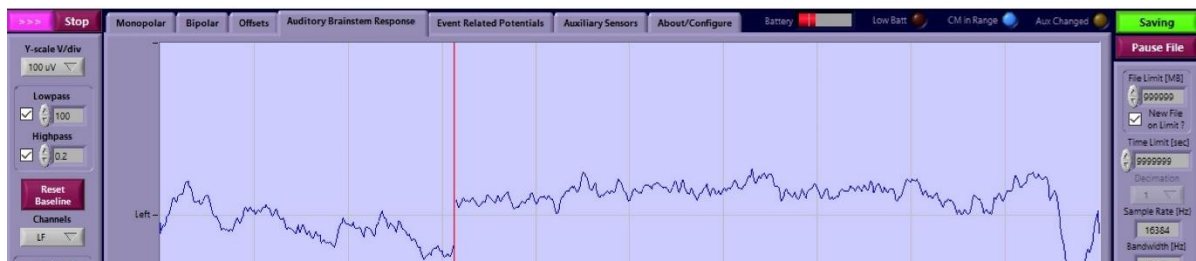

Figure 6 - ABR LF channels inside ActiView
- LF:** The **Low Frequency referenced channels** (labelled: Left and Right in reference to Ref) with selectable bandwidth 0 Hz – 5.4 kHz are shown in Figure 6.